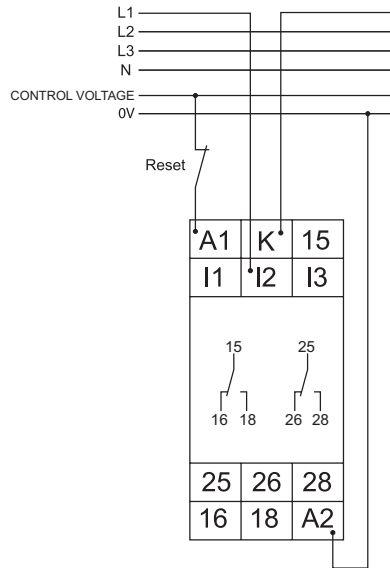

Figure 2
- b. 50mA – 1A = I2 (See Figure 2)^②